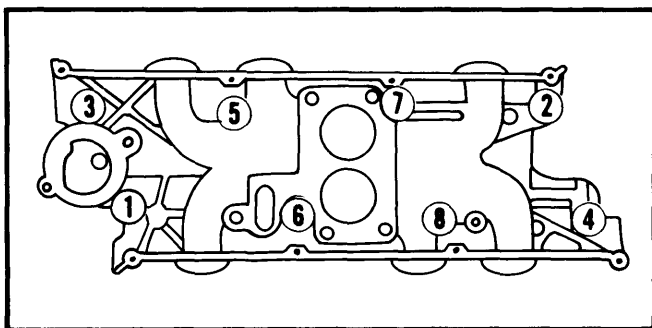

Fig. 1 Intake Manifold Tightening Sequence
2) Install sealing compound to retaining bolt bosses on intake manifold. Install manifold on cylinder block. Install bolts and nuts, then tighten in sequence shown in *Fig. 1*. A special tool (T72C-6519) is required to torque one of the intake manifold bolts. Install parts in reverse order.